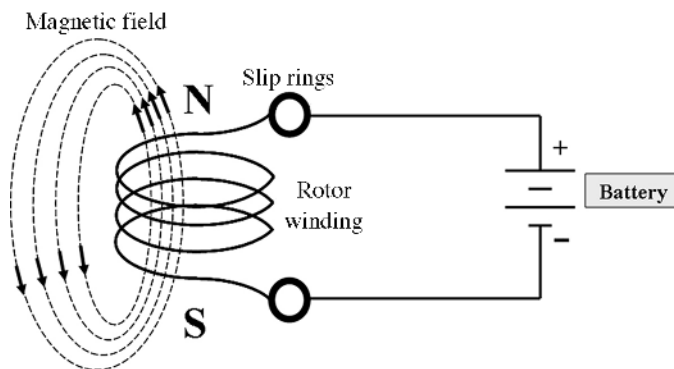

Figure 1-10 Electromagnet and slip rings.
can be varied. Varying the magnetic field of the rotor enables generation control systems to adjust the output voltage according to load demand and system losses. A drawing of an electromagnet is shown in Figure 1-10.
*Electromagnets* Applying a voltage (e.g., battery) to a coil of wire produces a magnetic field. The coil's magnetic field will have a north and a south pole as shown in Figure 1-10. Increasing the voltage or the number of turns in the winding increases the magnetic field. Conversely, decreasing the voltage or number of turns in the winding decreases the magnetic field. *Slip rings* are electrical contacts that are used to connect the stationary battery to the rotating rotor as shown in Figure 1-10.